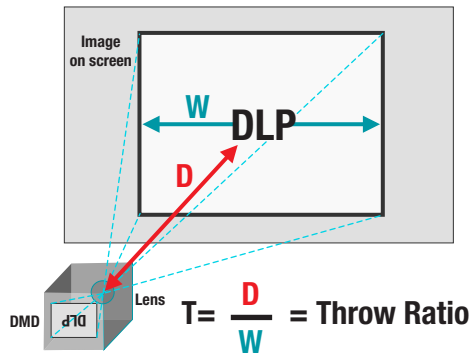

Figure 7. Throw ratio.
In many projection applications, the placement of the projector with respect to the viewing screen is important. The throw ratio of the projector determines how far away the projector must be placed in order to achieve a certain screen size (**Figure 7**). The width of
the projected image (W) with respect to the distance from the lens to the center of the screen (D) is the throw ratio (T), which is shown in **Figure 7**. Laser TV applications typically have ultra-short throw optical modules that allow for throw ratios of less than 0.4.